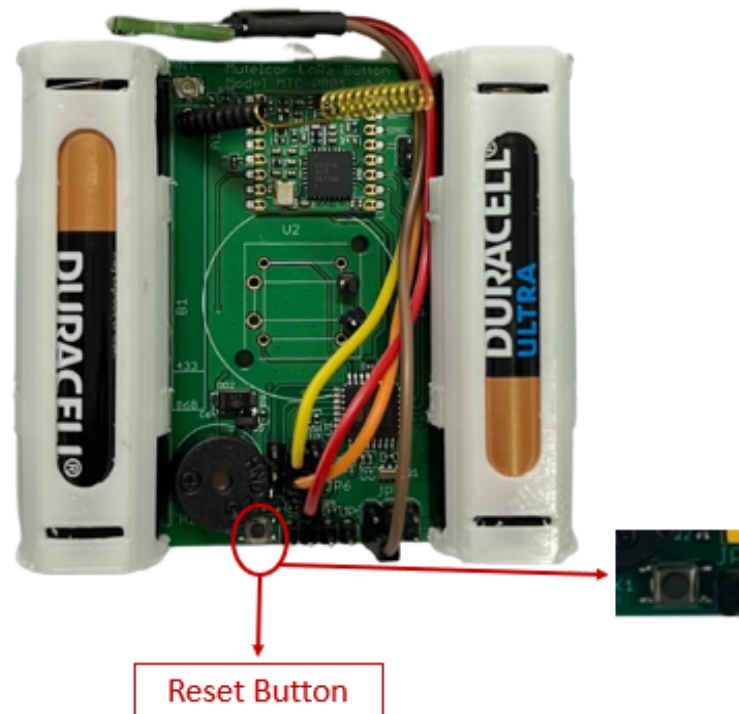

Fig 9.1
2. Position and hold the PCB as shown in fig 9.1.
4. On the PCB, carefully observe a small reset button as shown in fig 9.1